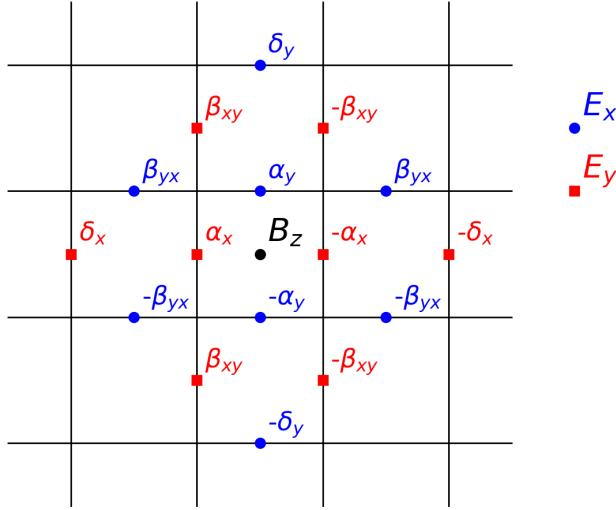

Figure 1: Coefficient locations for the  $B_z$  field computational stencil in 2D.
The extended stencil Maxwell solvers described above all operate by including points in neighbouring cells with a carefully chosen weighting. These weightings are determined by adjusting the coefficients shown in Figure 1. Full control over these coefficients can be achieved by specifying “custom” for the “maxwell\_solver” parameter in the control block and then supplying a “stencil” block to provide the desired coefficient values.
**delta{x,y,z}, gamma{x,y,z}, beta{xy,xz,yx,yz,zx,zy}** - The coefficients to use for the extended stencil points as shown in Figure 1. See Blinne et al. [2] for further details. These coefficients are specified as floating point numbers. The default values are to set all coefficients to zero which results in  $\alpha_{x,y,z}$  having values of unity. This corresponds to the standard Yee scheme.